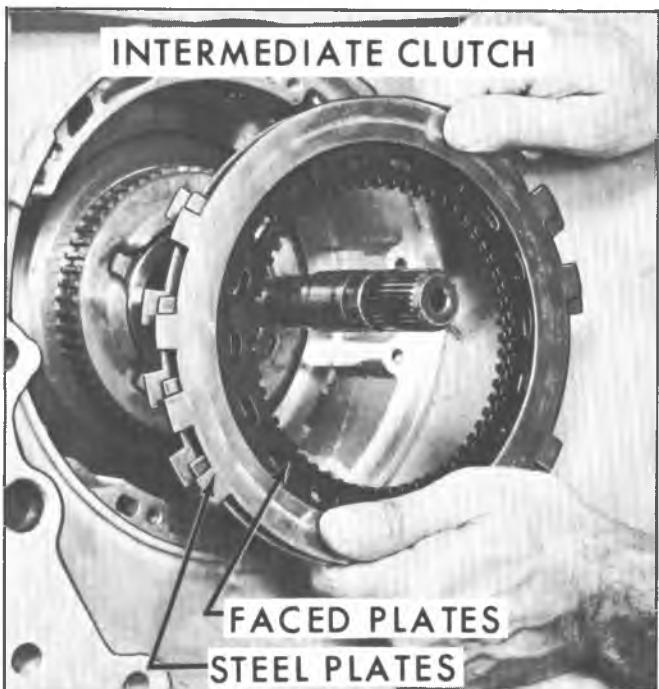

Fig. 29M--Removing Intermediate Clutch Plates
4. Remove intermediate clutch drive plates and steel reaction plates (fig. 29M).